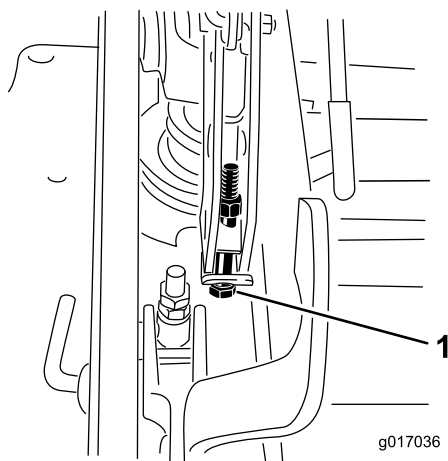

**Figure 72**
12. To adjust the single point system, loosen the two bolts at the bottom of the height of cut plate. Refer to Figure 72.
14. Tighten the two bolts at the bottom of the height of cut plate (Figure 72). Torque to 27-33 ft-lb (37-45 N-m).